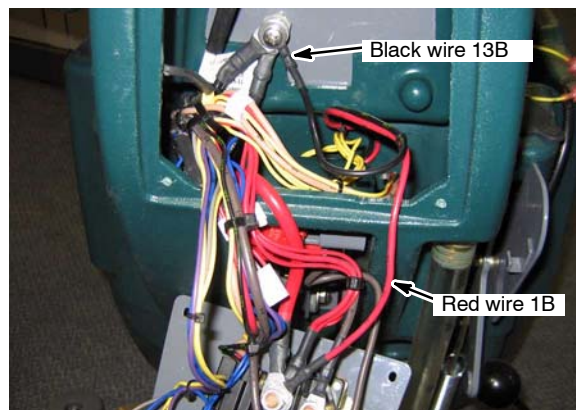

Fig. 15
15. Connect the black and red wires from the charger plug harness as shown (Fig. 15).